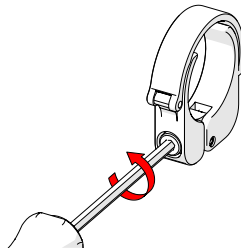

Fig. 58 - Loosen clamp screw
1. Loosen the clamp screw using the supplied 3 mm hex driver (Fig. 58).